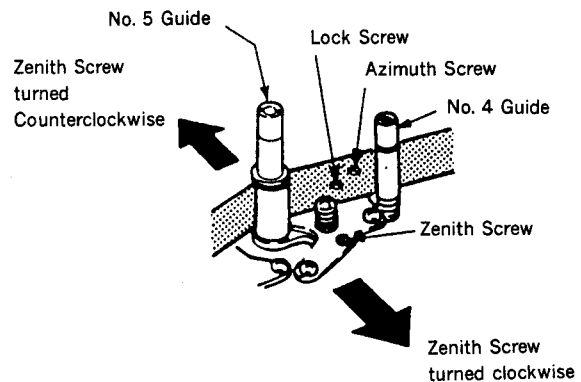

Fig. 1
- (1) Turn the No. 4 and No. 5 Guides counterclockwise to free the tape path at the exit side. (fig. 1)
4. Tighten the lock screw clockwise. (fig. 1)